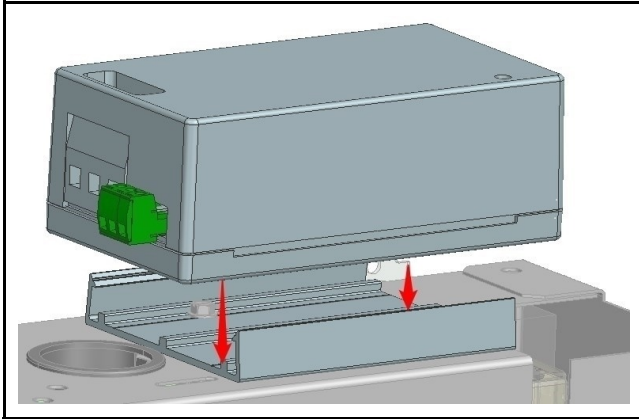

Fig. 9 Installing the Smart Start Module to the Mounting Base
3. Insert the Smart Start Assist module to bracket so that slot in the module engages with edge clip of mounting bracket. Refer to Fig. 9.